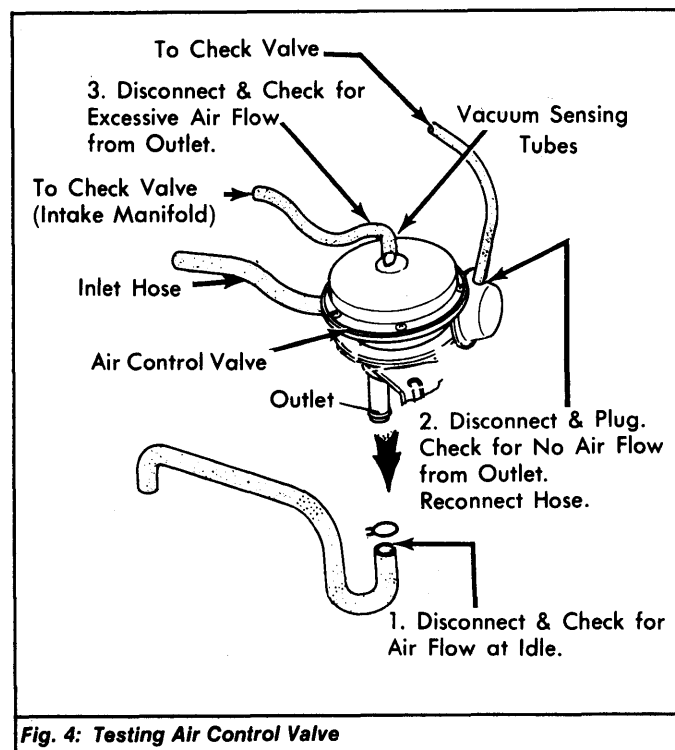

Fig. 4: Testing Air Control Valve
- 2) Now, disconnect vacuum sensing tube (hose leading to intake manifold from diaphragm unit) from air control valve. Plug hose. See Fig. 4.